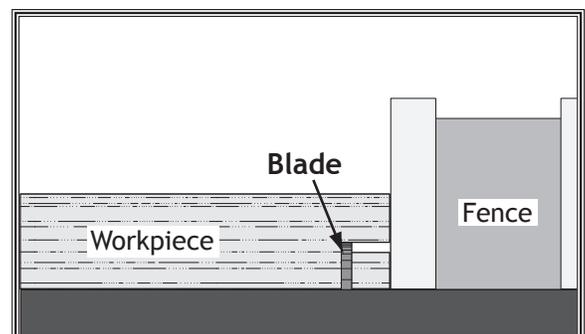

Figure 74. Example of second cut to create a rabbet.
7. Lay workpiece flat on table, as shown in **Figure 74**, adjust saw blade height to intersect with first cut, then perform second cut to complete rabbet.